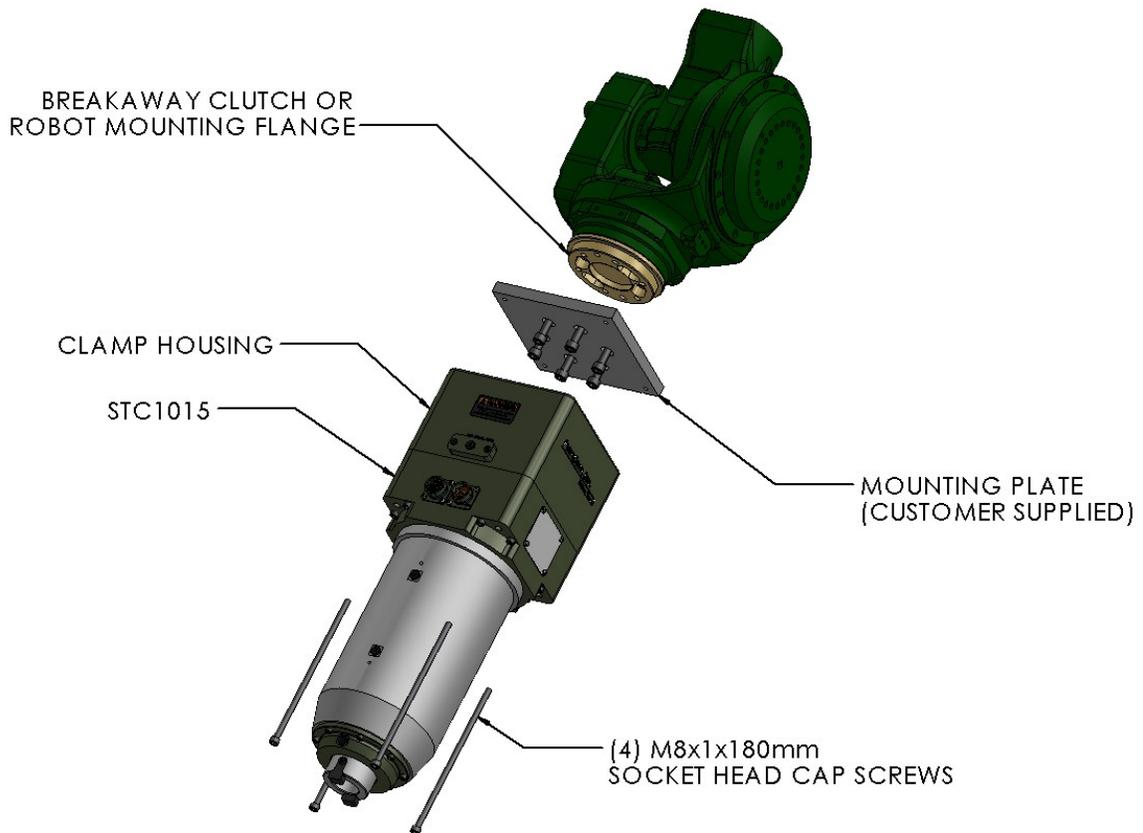

Figure 3. STC1015 Direct Mounting
To mount the STC1015, first attach the Mounting Plate to the Robot Mounting Flange or to the Breakaway Clutch, per the manufacturer’s specifications. Once the Mounting Plate is secured, place the STC1015 against the Mounting Plate and install (4) four, M8x1.25X180mm, Socket Head Cap Screws. (See Figure 3.) Tighten the fasteners to the torque specified in Section 4.0.